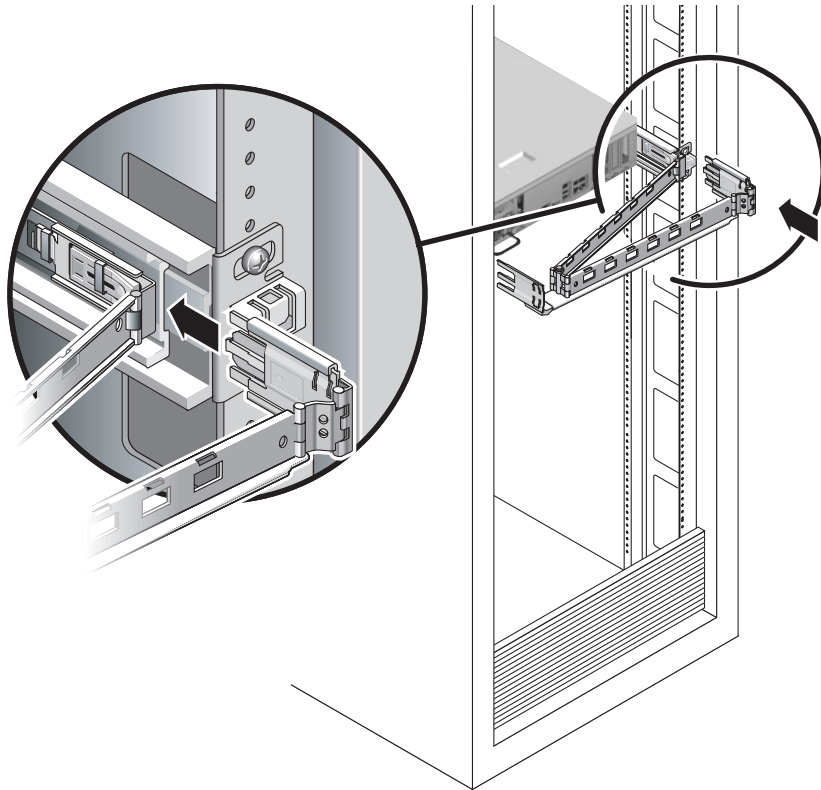

FIGURE 2-10 Attaching the Outer CMA Connector
3. Insert the larger extension into the end of the right sliding rail (FIGURE 2-10).